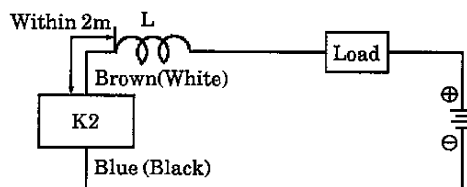

Fig. 5 • Choke coil L
- Install some protective circuit as per illustrated in Fig. 5 or 6 (in case of model K2) and Fig 7 (in case of model K3) when length of lead wire is over than 10m.